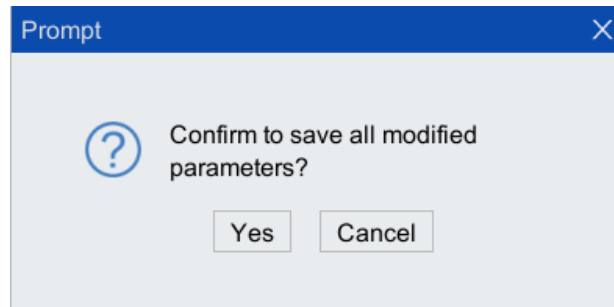

Figure 4-11 Confirm to save the modification prompt box
Step 17. Click <Yes> in the prompt dialog box that pops up. As shown in Figure 4-11.